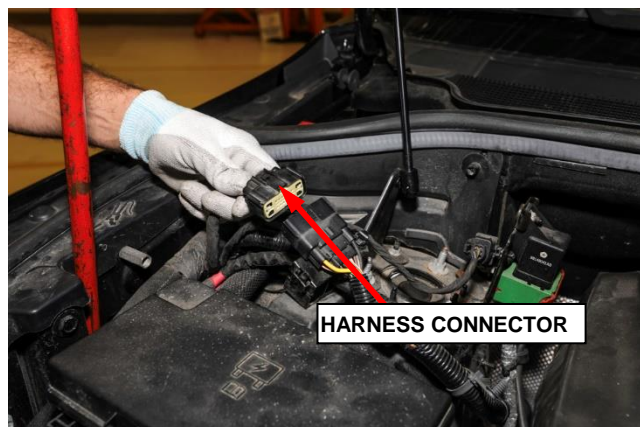

Figure 10 – Connector at Strut Tower
24. Disconnect the 16-pin connector at the strut tower (Figure 10).